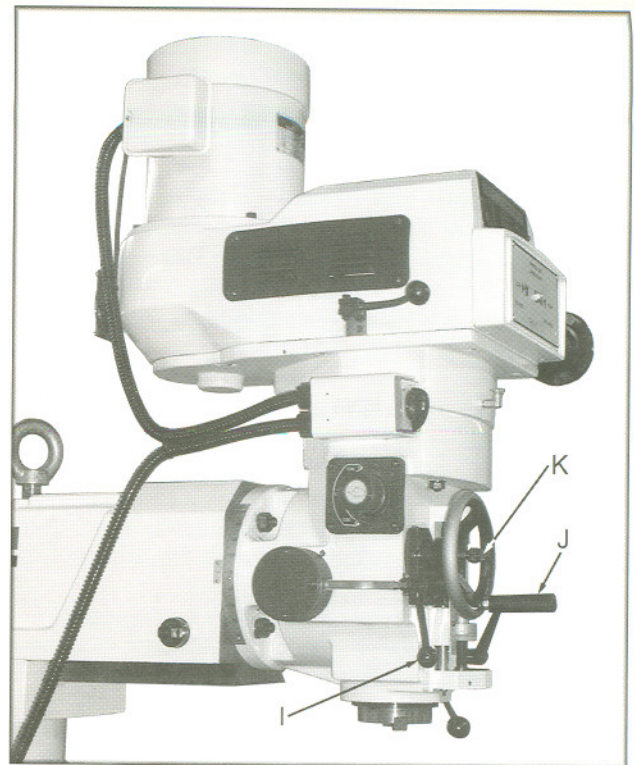

Fig. 5
I. **Feed Control Lever** (I, Fig. 5) - located on the left side of the head. Engages overload clutch on pinion shaft when the lever is positioned to the left. Stays engaged until quill stop comes in contact with micro adjusting nut (forcing feed control lever to drop out automatically), or until lever is released manually by positioning lever to the right.
J. **Manual Feed** (J, Fig. 5) - located on the left front of the head. Feed reversing knob (K, Fig. 5) must be in the neutral position. The feed control lever (I, Fig. 5) must be engaged. **Note:** manual feed handle and handwheel may be taken off when not in use.
K. **Feed Reversing Knob** (K, Fig. 5) - located in center of manual feed handwheel. Position of the knob depends upon the direction of spindle rotation. If boring with right hand cutting tools, pull feed knob towards operator until clutch becomes engaged. Neutral position is between forward and reverse position.